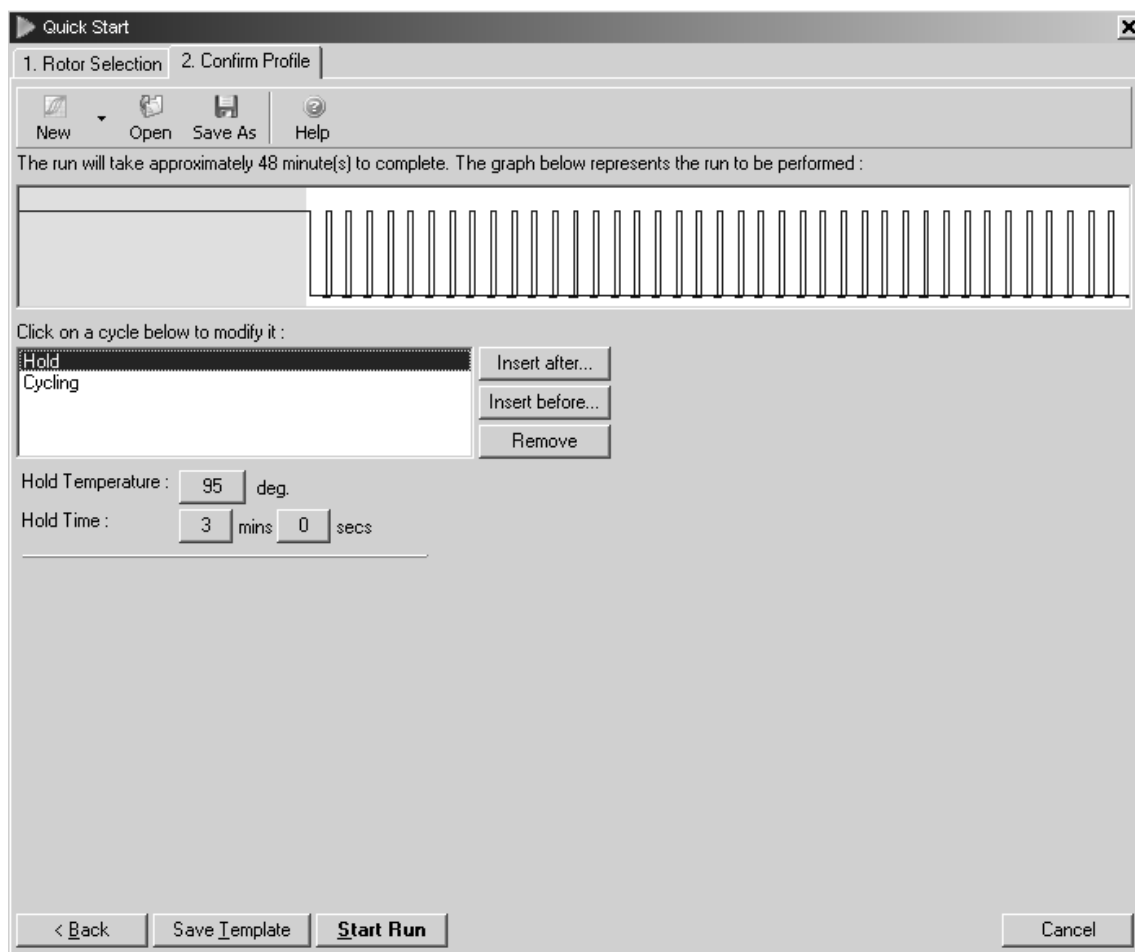

Figure 1. PCR initial activation step. PCR requires an initial incubation at 95°C for 3 min to activate HotStarTaq *Plus* DNA Polymerase.
- 5. Program the Rotor-Gene cyclor according to the program outlined in Table 2 (page 13) and Figures 1 and 2 (page 14 and 15).**